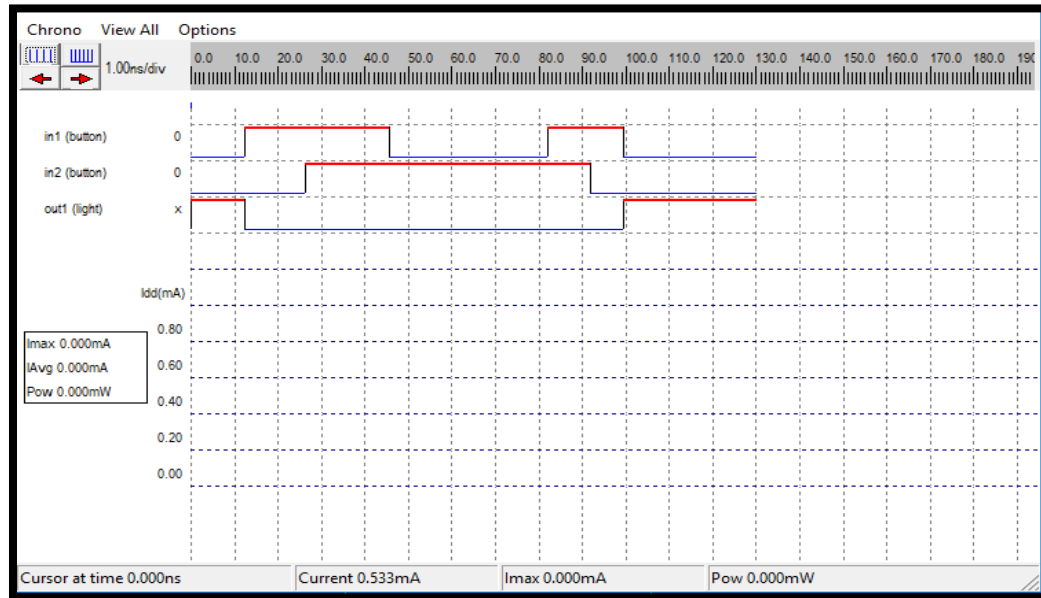

Figure 26: Timing diagram.
- After selecting the .txt file, a new window appears called Verilog file. See Figure 26: